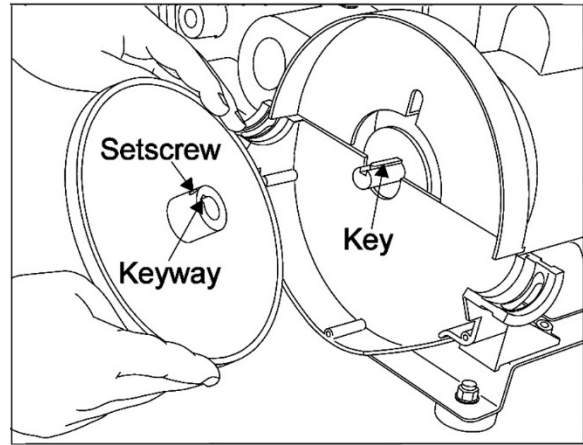

Figure 22: Disc installation
8. Align keyway in disc hub with key on motor shaft (see Figure 22). Install disc plate on shaft. Position disc so that the face of disc with the attached abrasive protrudes slightly more than the edge of upper disc guard.